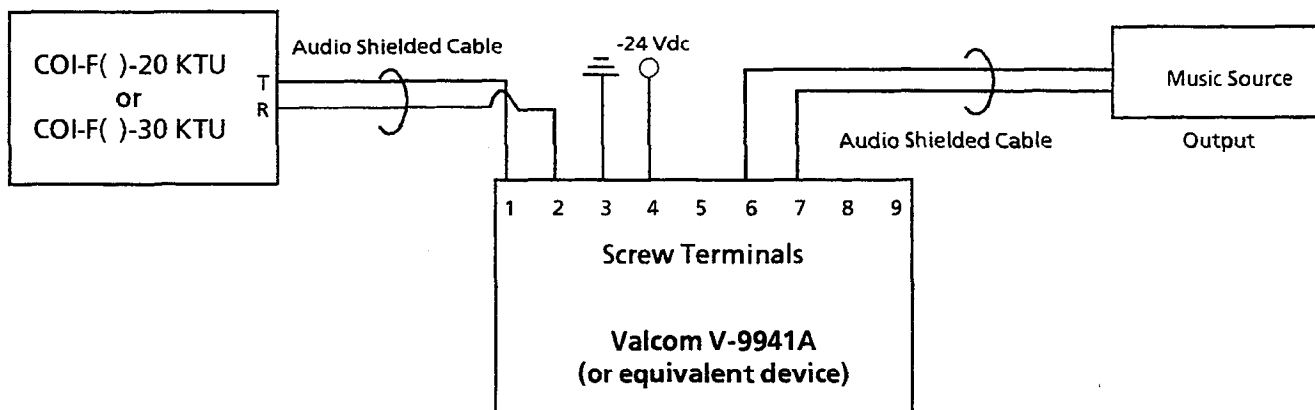

Figure 2-80 Music Source Connection
3. Connect a locally provided Background Music source to the V-9941A (or equivalent device). Refer to Figure 2-80 - Music Source Connection and to Table 2-36 - Connection Information/Connection and Port Relationships.